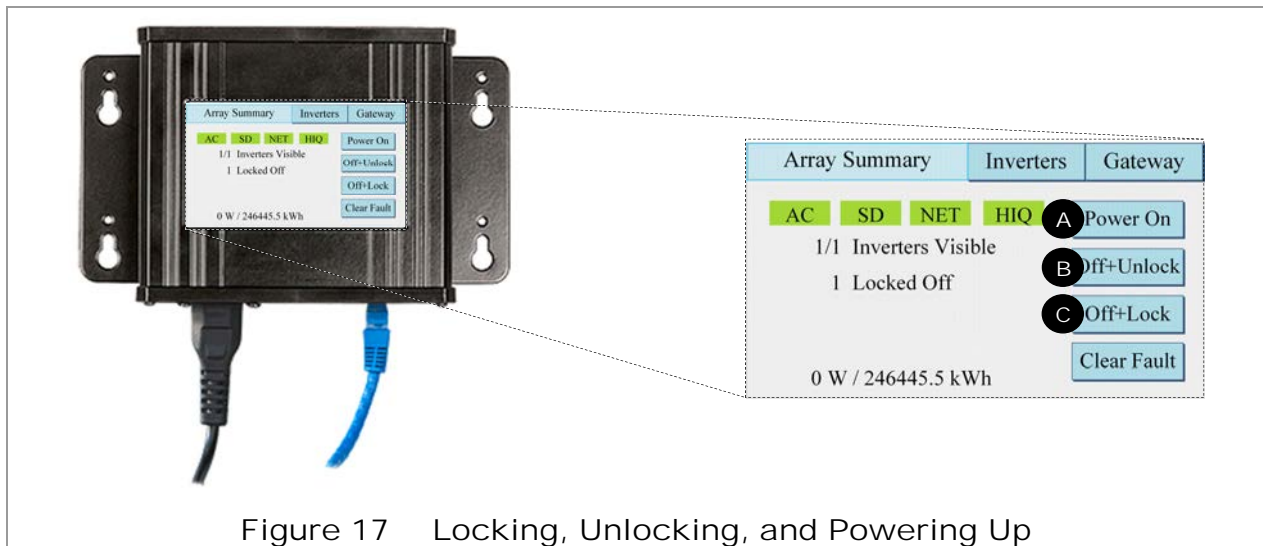

Figure 17 Locking, Unlocking, and Powering Up
- To unlock multiple inverters, open the Gateway's **Array** tab. The Off+UnLock button B will unlock all inverters in the system. (See Figure 17. Also, see pages 23 and 26 for Gateway navigation and inverter states.)